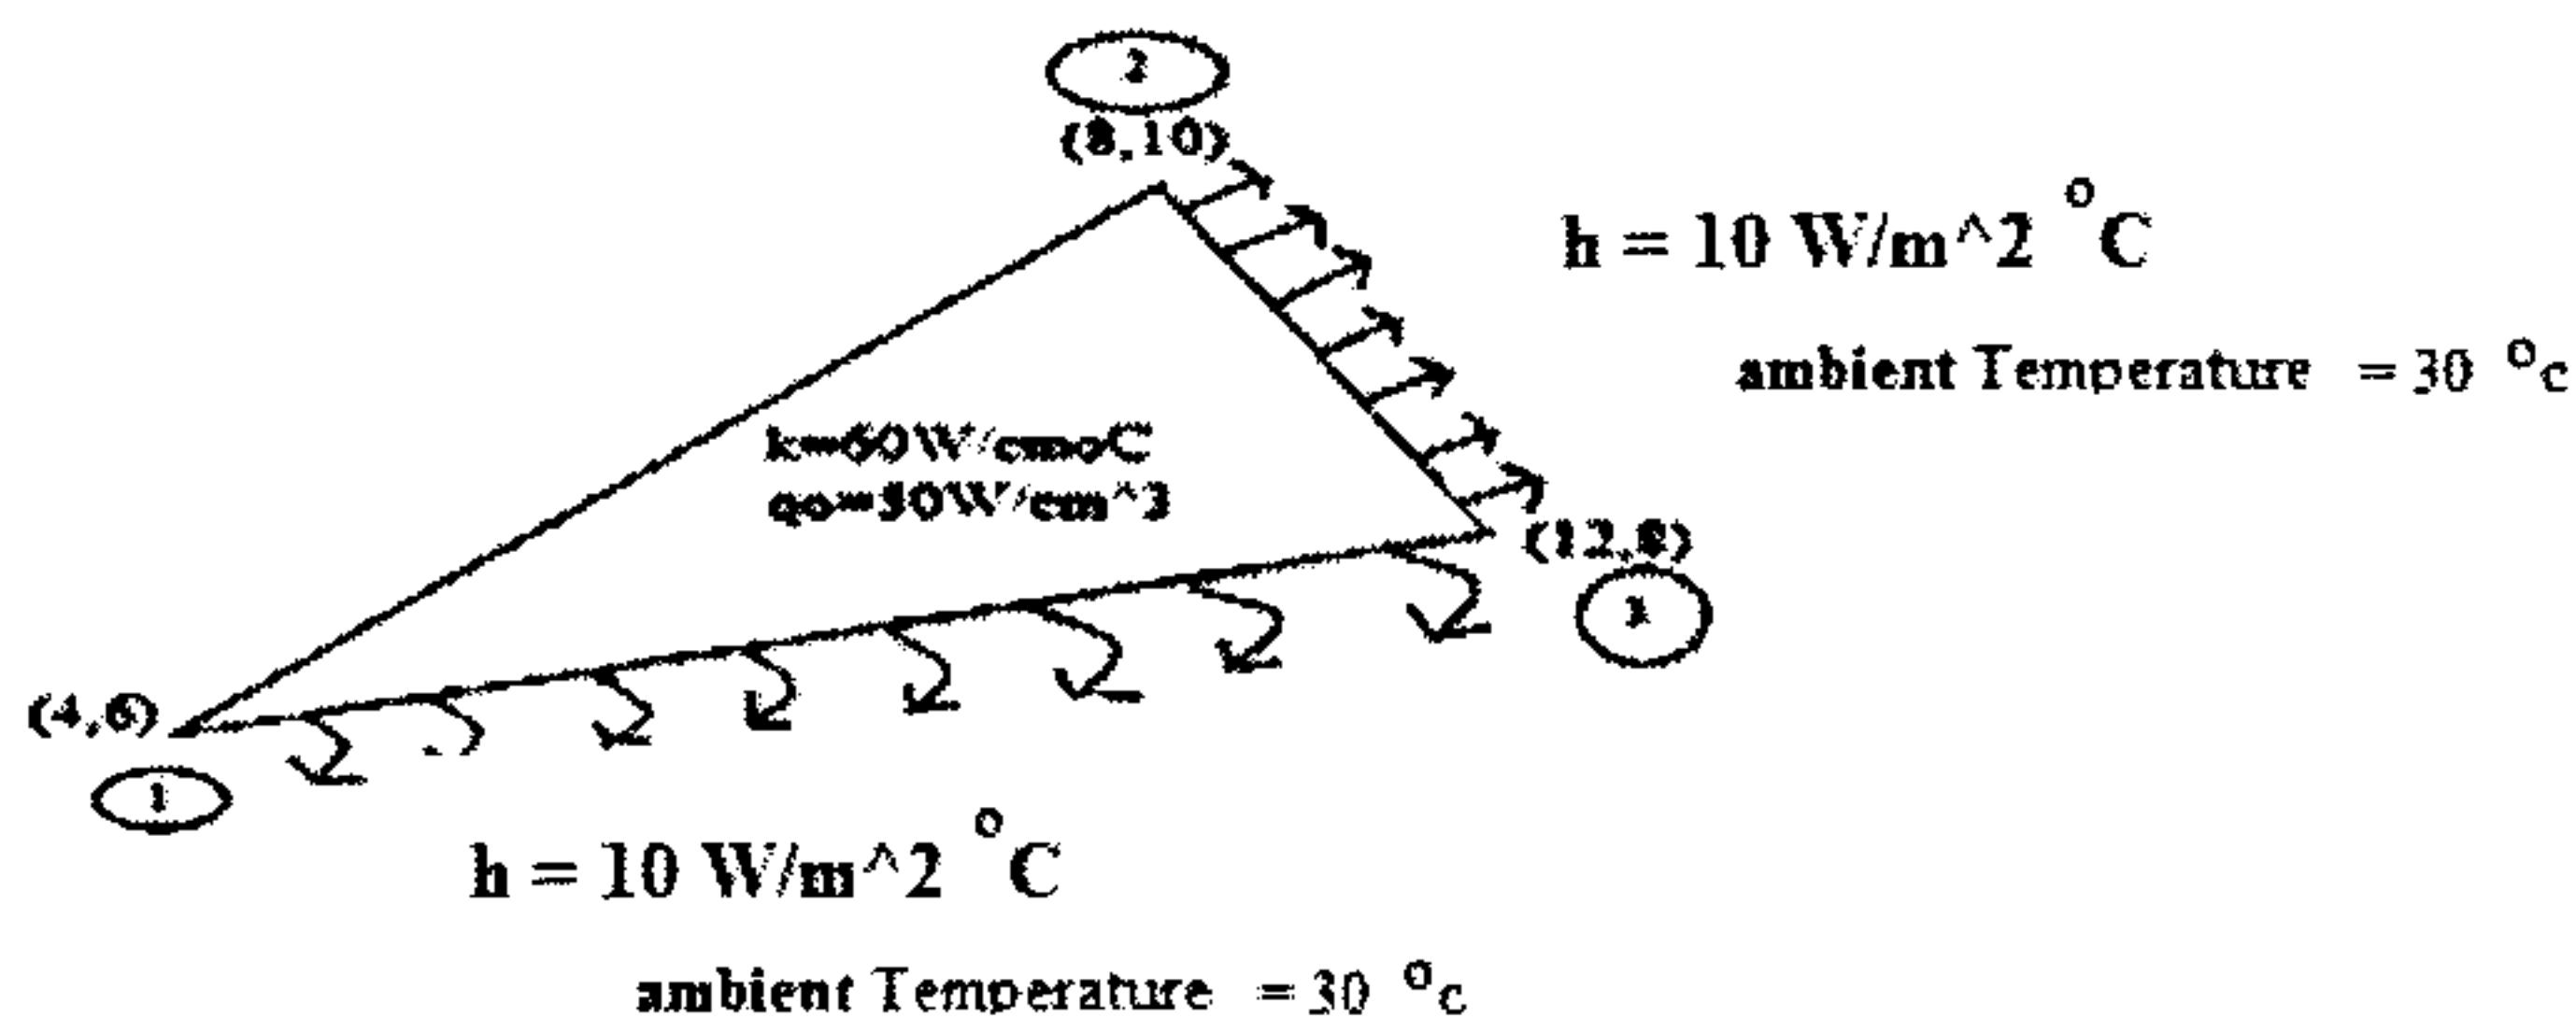

Fig 4
5. Compute the element matrices and vectors of 2-D triangular element shown in fig 4, for a steady state heat conduction transfer . 14 M